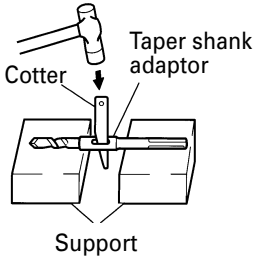

Fig. 11
- (2) Turn the power on and drill a base hole.
- (3) After cleaning out dust with a syringe, attach the plug to the anchor tip and drive in the anchor with a manual hammer.
- (4) To remove the drill bit with taper shank, insert a cotter into the slot of the taper shank adaptor, place supports under the Rotary Hammer and tap the cotter with a manual hammer. (Fig. 11)